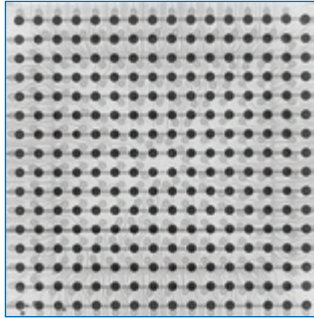
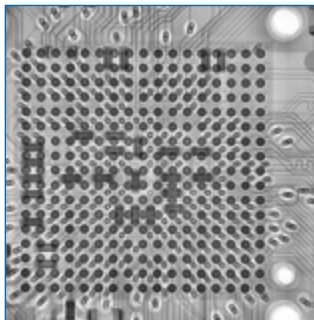

FIGURE 1. Simple image of a BGA?
FIGURE 2. Less simple image of a BGA?
- How complicated are the individual images in what they show? **FIGURE 1** shows an x-ray image of a BGA on a simple board with little internal board layer structure and no second-side components. Compare this to **FIGURE 2**, a more “real” situation seen in PCB production, yet still relatively simpler than much of what is manufactured today. Finally, compare both images to **FIGURE 3**. Although the fault is clear to the human eye, the additional overlapping information from other parts of the board certainly makes human analysis of this BGA more challenging. If there were only a single, subtle solder ball fault present in Figure 3, then perhaps an AI approach might fare better than a human, given sufficient examples. With this in mind, are there sufficient board quantities to produce an acceptable dataset of images? It is probable applications like those shown in Figure 1 are most appropriate for AI today, as there is likely to be much more simplicity in each image, and the AI can obtain many similar examples from which subtle variations not observable to the human eye may be found. As for Figures 2 and 3, will new image datasets be needed for analysis of the same component when it is used in different locations on the same board or on entirely different boards? How often might an AI algorithm need to be (re) verified?
The more complicated the image, the larger the dataset needed to provide a range of pass/fail examples with an inspection envelope. Variability of the mammograms and the 29,000 images used may well lie within a narrower variation envelope than the BGA in Figures 2 and 3. Perhaps AI for electronics is best suited today for where the image is much simpler and small, as in Figure 1. Automatically identifying variations